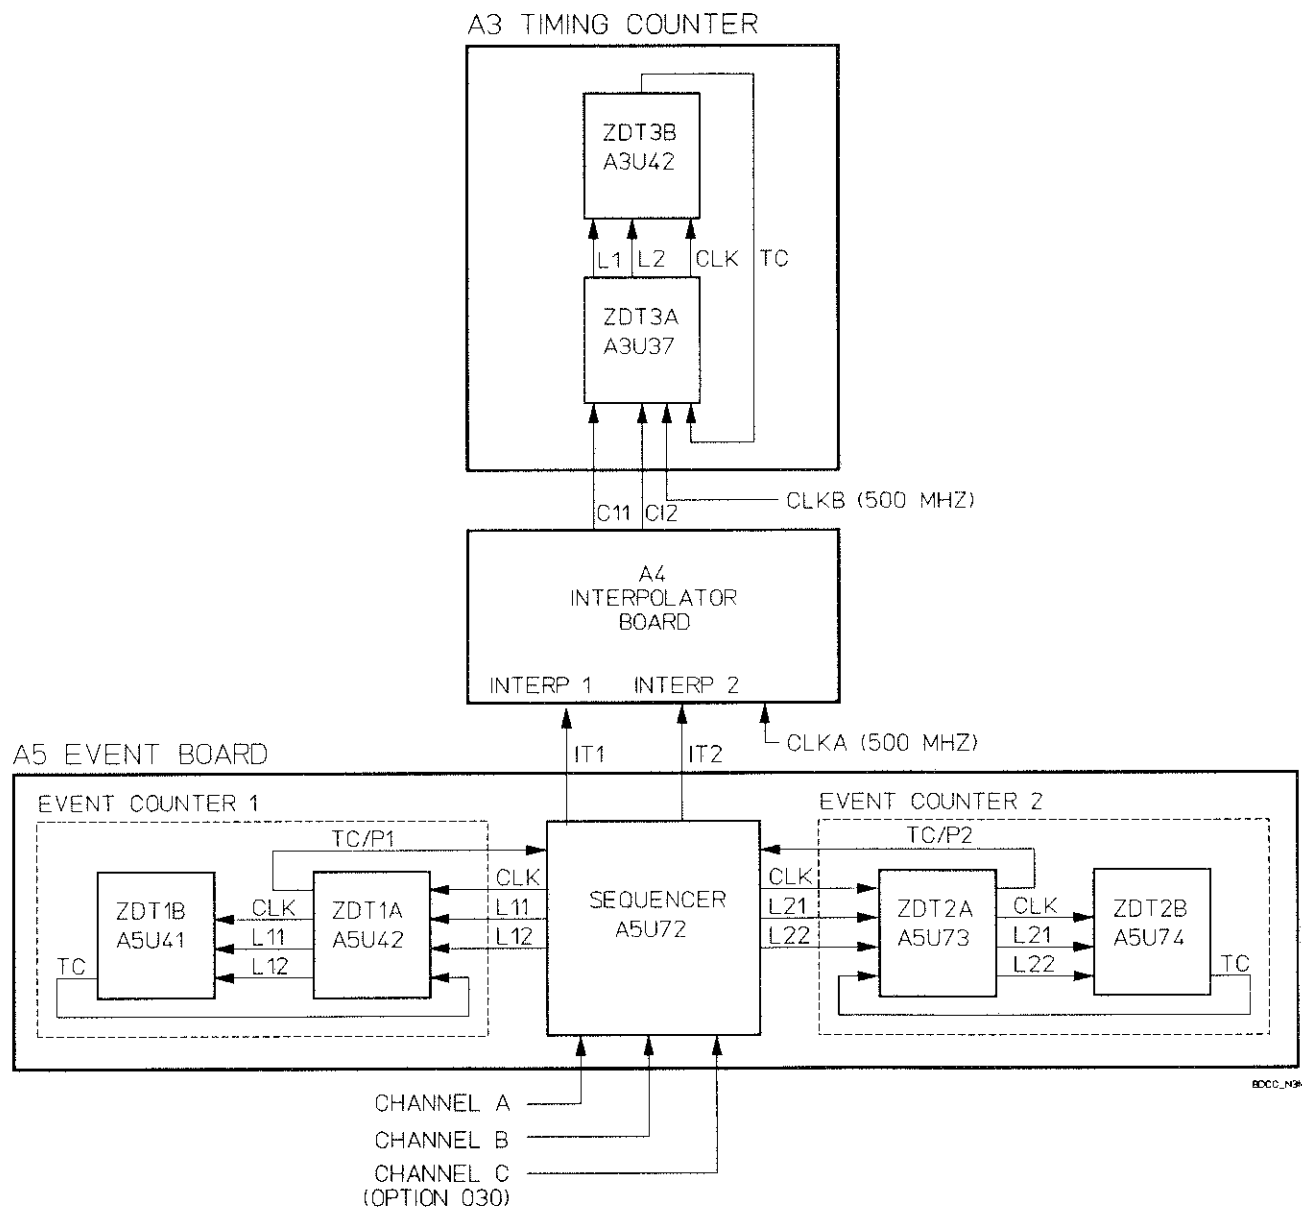

Figure 8-1. Counting Chains
*Figure 8-1, "Counting Chains,"* illustrates the relationship between the Time Counter, the Interpolators, and the Sequencer IC. Note that the latch signals, IT1 and IT2, from the Sequencer, are first sent to the A4 Interpolator board. There they are synchronized to the 500 MHz clock, and then sent as latch signals, CI1 and CI2, to the Time Counter.